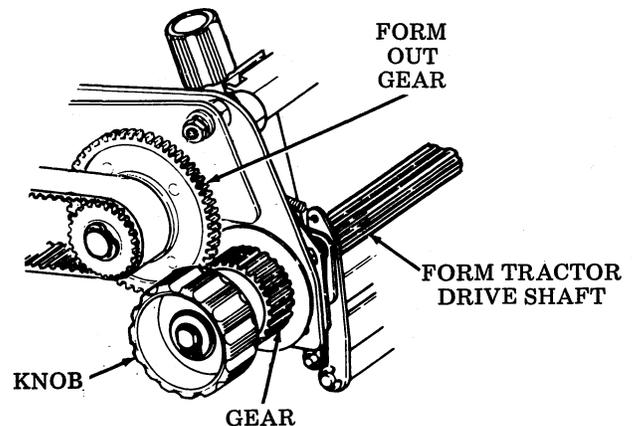

Fig. 8—Manual Paper Advance Knob
2.07 The manual paper advance knob (tractor feed) Fig. 8 when pulled out disengages the form tractor drive shaft from the gear permitting free movement of the forms when turning the knob.